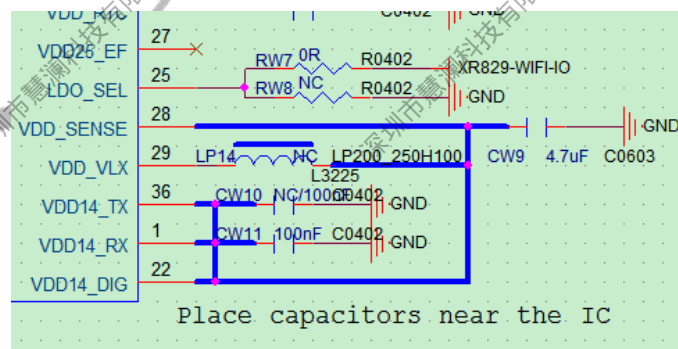

Figure 2-38 XR829 VDD14 Power Design
- The VDD14_XX power output of XR829 has LDO and DCDC modes. If using LDO output mode, please pull up the LDO_SEL pin to VCCIO-WIFI, and at the same time no connect the inductor LP14, and the power is output from the SENSE pin. If using DCDC output mode, please pull down the LDO_SEL pin to GND, and mount the inductor LP14 at the same time, and the power is output from the VLX pin. As shown in Figure 2-38.